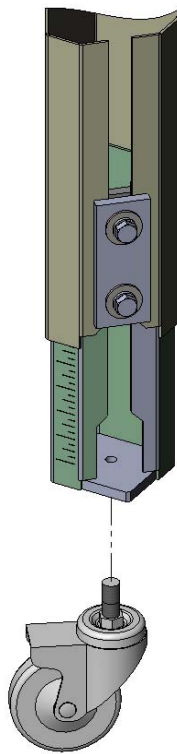

Figure-7
- D.** Do Not Adjust The Conveyor Height By Adjusting The Caster. Proper Conveyor Height Must Be Achieved By Adjusting The Leg Extension Of Each Leg. **(See Figure-7)**